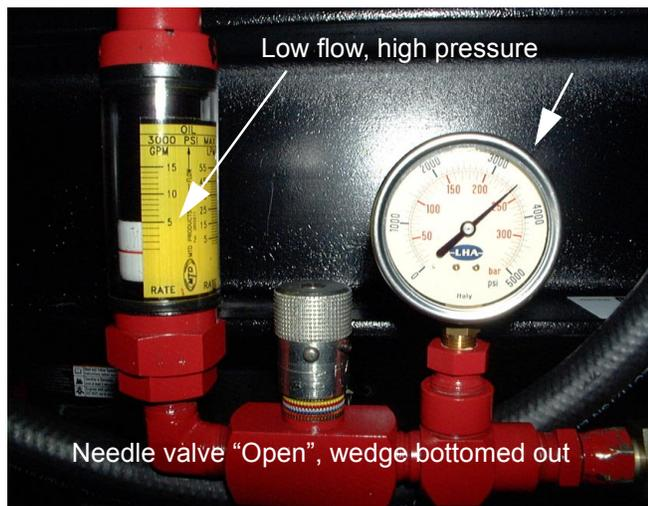

Figure 3
- Record the PSI. _____ (This is PSI "B") See Figure 3.